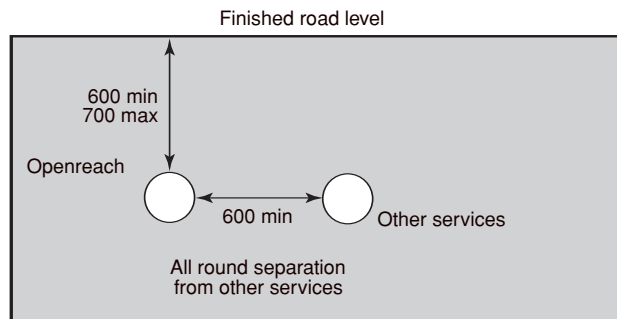

Fig 2
- Duct laid beneath a carriageway crossing must be 600mm cover from final surface levels and, for engineering reasons (NJUG 7), 600mm separation from other services laid in parallel or 150mm if laid at right angles (see Fig 2).